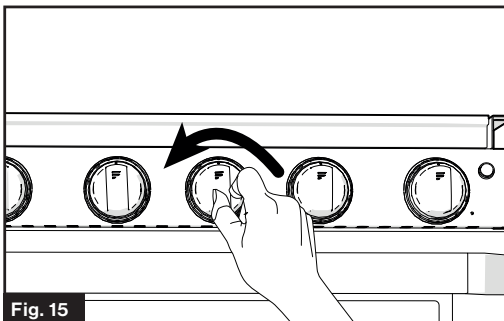

Fig. 15
1. Turn the appropriate burner control knob counterclockwise to the  position. (Fig. 15)